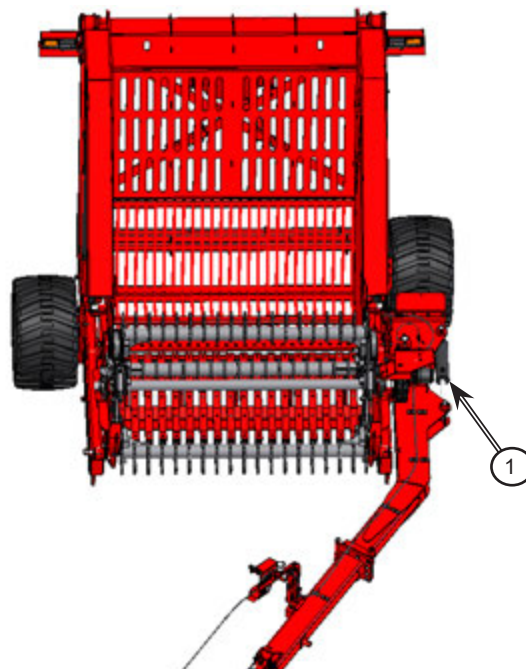

Figure 7.5: Move the hitch into transport position
5. Move the hitch into the transport position; see *Figure 7.5*.
- a. Extend the hitch cylinder (1) to move the hitch into transport position.